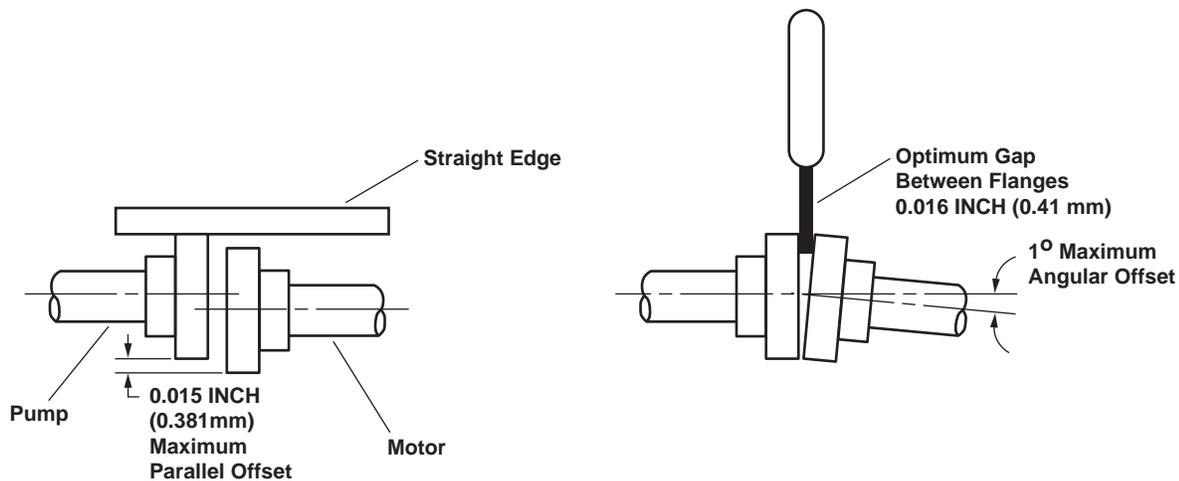

Figure 5. Alignment of Pump Coupling Flange and Motor Coupling Flange
1. Align the pump coupling flange and the electric motor coupling flange together leaving approximately 0.016-inch (0.41 mm) space between the ends of both flanges. Refer to figure 5.
2. Check the alignment between the pump coupling flange and the electric motor coupling flange. Refer to figure 5.
3. The maximum angular offset shall be no more than 1 degree and maximum parallel offset shall be no more than 0.015 inch (0.381 mm). Refer to figure 5.